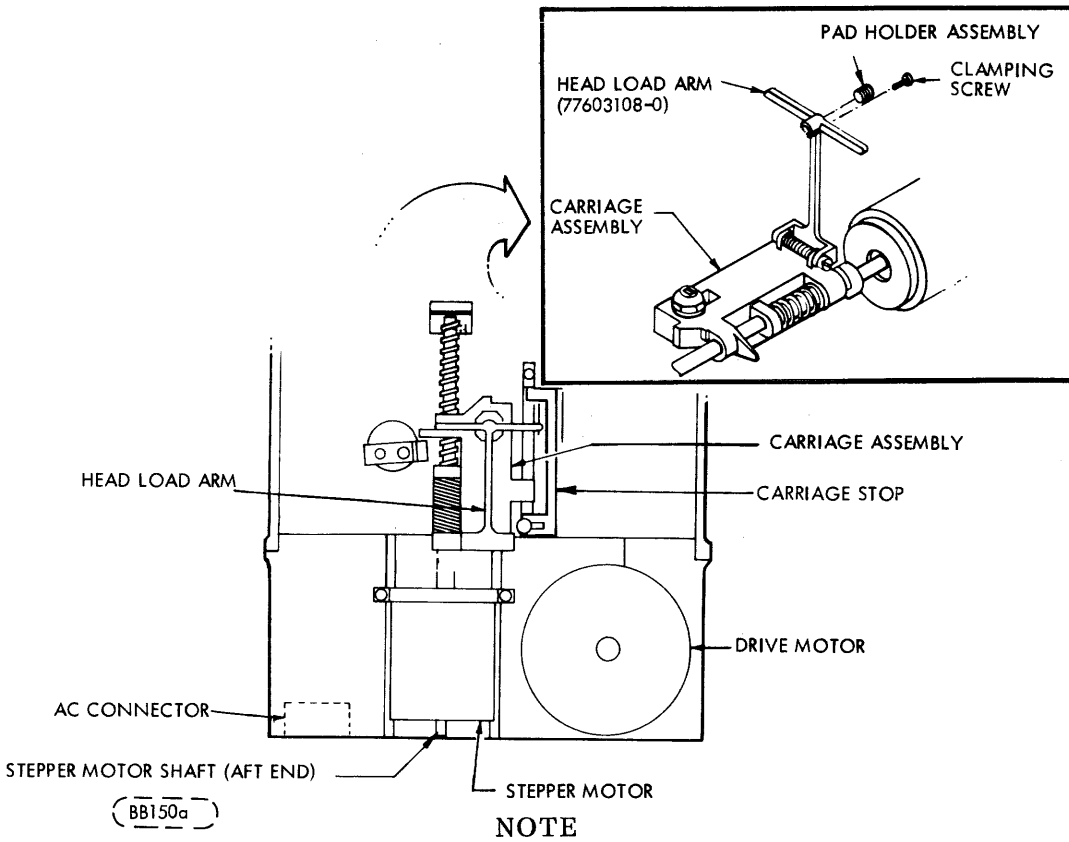

FIGURE 6-13. HEAD-LOAD-PAD REPLACEMENT ILLUSTRATION
- b. Move the carriage assembly to its rear most position (toward the stepper motor) by turning the aft part of the stepper motor shaft (Figure 6-13). This will provide clearance for lifting the head load arm.
- c. Lift the head load arm until the head load pad is visible (see Figure 6-13).